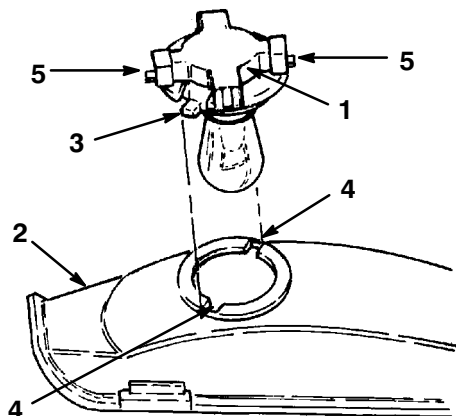

Figure 48
4. Rotate the bulb holder 1/4 turn counterclockwise and remove it from the reflector (Fig. 48).
2. The bulb holder has two tabs (Fig. 48). Align the tabs with the slots in the reflector, insert the bulb holder into the reflector and rotate it 1/4 turn clockwise until it stops.